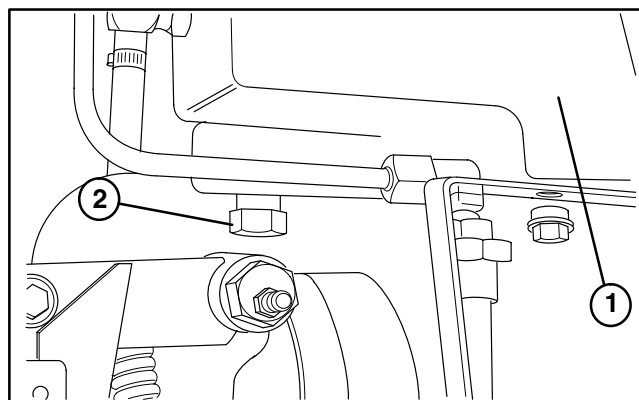

Figure 22
4. On the **SP 5020**, place a funnel under the tank drain plug to direct oil into a drain pan. Remove drain plug and allow oil to drain into pan. Reinstall and tighten drain plug when the oil stops draining (Fig. 22).